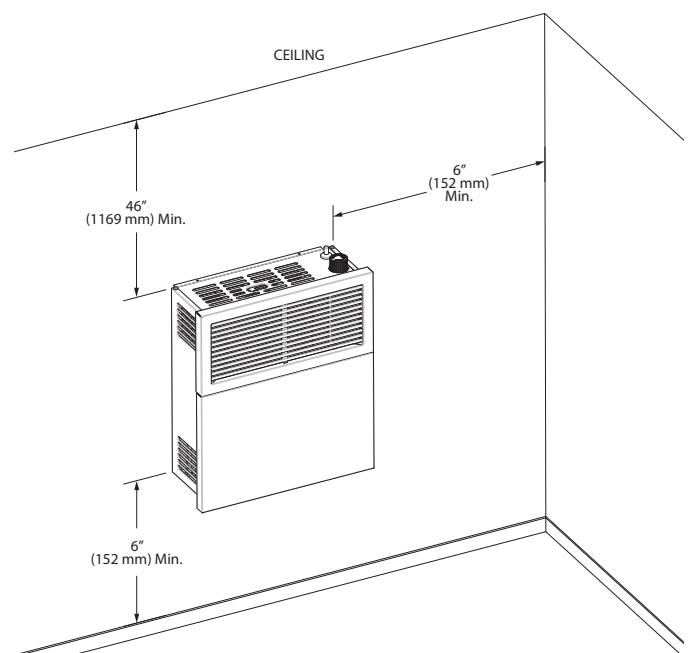
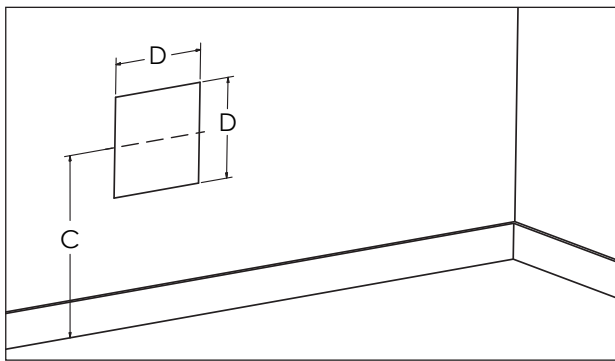

Figure 6
Figure 10
2. Draw the position of the hole for the air-vent intake pipe, taking into account the minimum clearances mentioned in Figure 6. See the dimensions of the square hole "D" and height to the center "C" in Table 1 and Figure 10 for the different models. Height "C" is the minimum recommended.